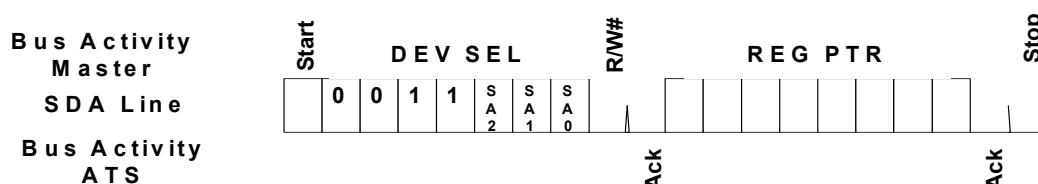

Figure 11 — I²C Bus Write to Pointer Register
Writing to the TSE2004av Temperature Register Set is accomplished through a modified block write operation for two (2) data bytes. To maintain I²C Bus compatibility, the 16 bit register is accessed through a pointer register, requiring the write sequence to include an address pointer in addition to the Slave address. This indicates the storage location for the next two bytes received. Figure 11 shows an entire write transaction on the bus.